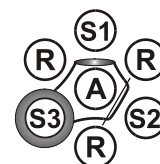

Figure 2.
4. **Very Strong Positive:** The reference positive control lines turn toward the antigen well before they reach the well containing the test serum and there is a broad, hazy line between the test serum and antigen (A) (Figure 2, S1, strong positive sample). This line is situated very near the antigen well (A), especially if the plate is observed at 24 hours.
5. **Non-Specific Lines:** These lines are observed between the antigen and test serum well. However, the reference positive control lines will pass through the non-specific line and continue on into the test serum well of negative sera (not shown). The non-specific line does not form a continuous line with the reference positive control lines. The reference positive control lines will form more acute angles with a non-specific line than with a BTV-specific line of identity. The non-specific lines are formed by sample-antibody reactions with antigens other than BTV. A sample serum may produce a specific BTV line as well as a non-specific line (Figure 2, S2, positive sample with non-specific line). Care must be taken to be certain a specific reaction is not obscured by a non-BTV line. Retesting such samples and observing the reactions at frequent intervals may facilitate making determinations if the samples are positive or negative.
6. **Haze Around Well:** Occasionally a haze, due to lipids or other material in the serum, will form around the test serum well that may obscure the reference positive control lines near the sample well (Figure 2, S3). If the test is read at 24 and 48 hours, sometimes the results can be determined before the haze obscures the reaction. However, in some cases a determination cannot be made and another sample should be requested.